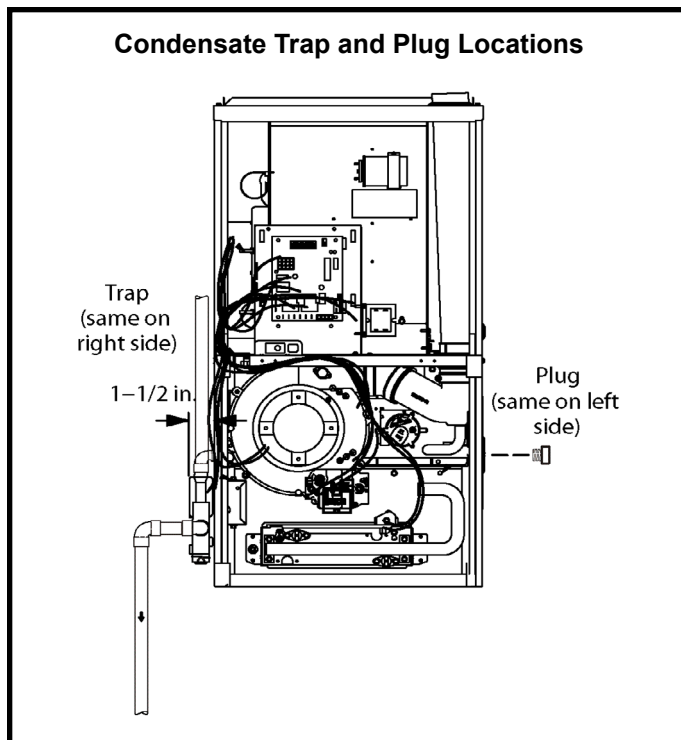

Figure 44
This unit is designed for either right or left side exit of condensate piping in downflow applications. Refer to Figure 44 for condensate trap locations.
2. Use a large flat head screw driver or a 1/2" drive socket extension and remove plug (Figure 44) from the cold end header box at the appropriate location on the side of the unit. Install provided 3/4 NPT street elbow fitting into cold end header box. Use Teflon tape or appropriate pipe dope.